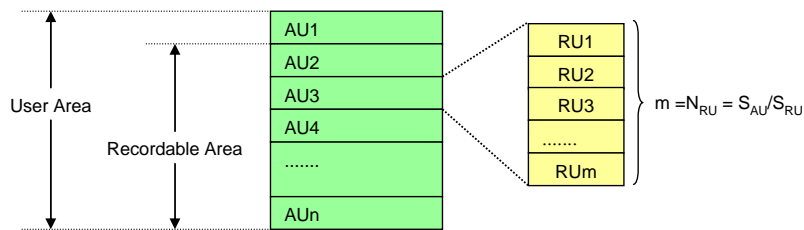

Figure 4-8: Definition of Allocation Unit (AU)
4.13.1 Allocation Unit (AU)
User Area is divided into units called “**Allocation Unit (AU)**” (Refer to Figure 4-8). Each card has its own fixed **AU Size (S_{AU})** and the maximum AU Size is defined depending on the card’s capacity. The host should manage data areas with the unit of AU. Several AUs from AU1 should not be used for real time recording because those may include system information. AV application should start recording from the first complete AU, to which only user data can be recorded. Note that this specification does not apply to Protected Area.
4.13.2 Recording Unit (RU)
Each AU is divided into units called “**Recording Unit (RU)**” (Refer to Figure 4-8). The **RU Size (S_{RU})** should be one or multiple of cluster size specified in the SD File System Specification. **The number of RUs in an AU (N_{RU})** is calculated from S_{AU}/S_{RU} .